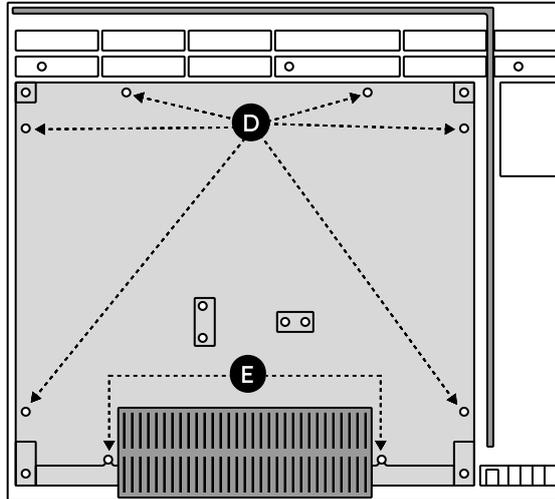

Figure 3 | Removing the inner plate
9. Remove the 6 screws (**D**) around the inner plate. The 2 screws (**E**) behind the panel heater element should not be removed or loosened. (**Figure 3**)
16. Replace the inner plate by sliding it onto the E screws, taking care not to damage the thermal insulation. Secure the plate with 6 screws (**D**). (**Figure 3**)